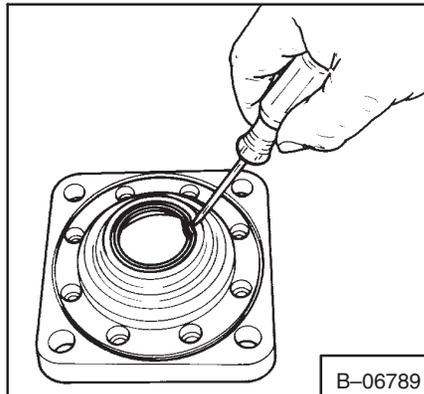

**Fig. 3-52** Removing Back-Up Washer
**NOTE:** To remove the seal and back-up washer for the Models 109-1052-005 & below see figures 3-52 & 3-53. To remove the dust seal and inner seal for the Models 109-1052-006 see figures 3-53a & 3-53b.
21. Remove the back-up washer and seal from the mounting flange (Fig. 3-52 & 3-53).